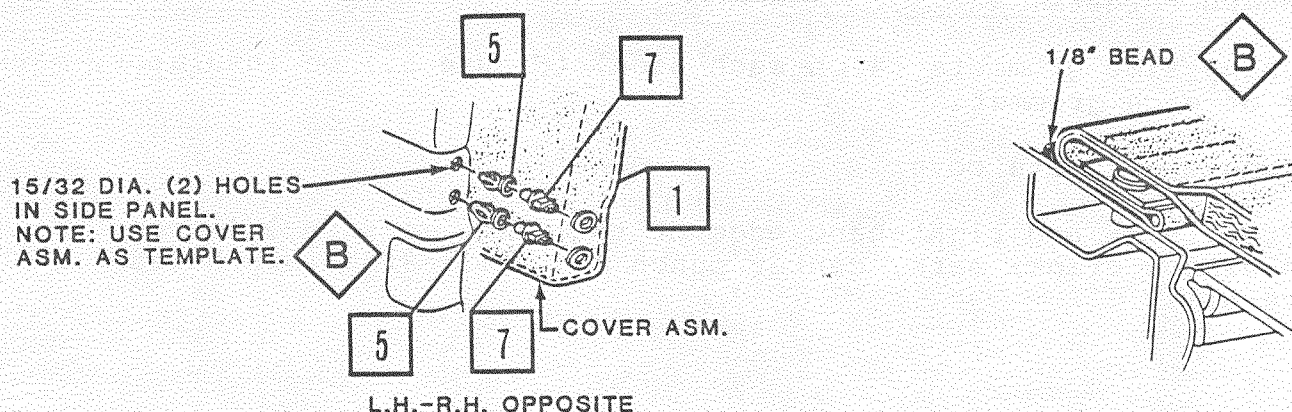

Figure 4.
13. Mark two holes on right and left sides through cover assembly at tailgate area (Figure 4.).
14. Center punch and drill 15/32 inch holes on right and left sides (Figure 4.).
15. Apply sealer and install jacknuts in drilled holes (Figure 4.).
16. Install cover turnbuttons in jacknuts and secure cover in place (Figure 4.). Tighten turnbuttons to 22-27 lb.-in. (2.5-3.0 Nm).
17. Seal front edge of cover with anti-corrosion sealer, top only (Figure 4.). Stop at left- and right-hand drip rails.